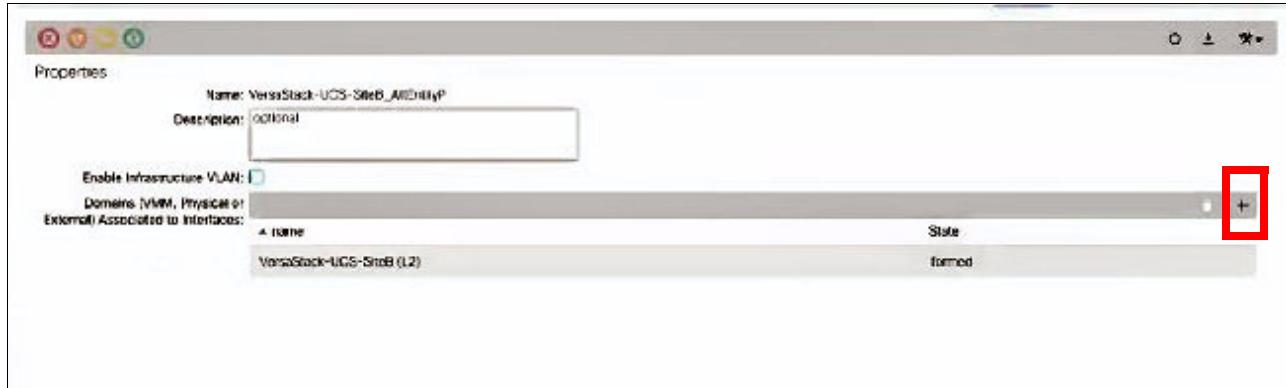

Figure 4-26 Domains option: Properties
- Click the + mark to the far right of the **Domains** option within Properties, as shown in Figure 4-26.